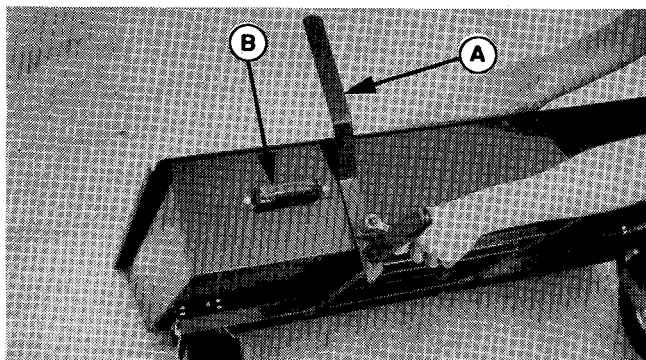

Figure 5.
4. TURN BOX WITH FRAME UPRIGHT AND INSTALL THE LATCH HANDLE (A, figure 5) AND TWO LIFT HANDLES (B) AS FOLLOWS: